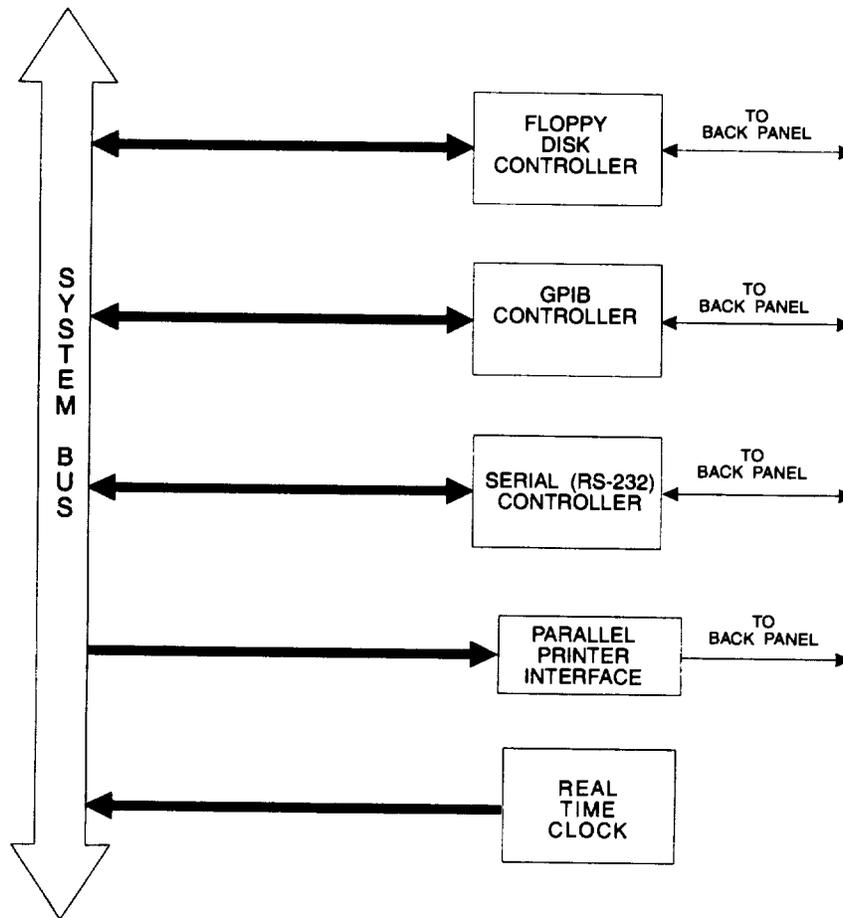

Figure 1-10. 1A2A6 GIO CCA Functional Block Diagram.
i. **1A2A6 General Input/Output (GIO) CCA.** This CCA (fig. 1-10) provides five main functions: